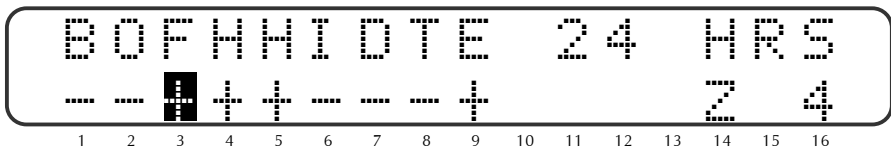
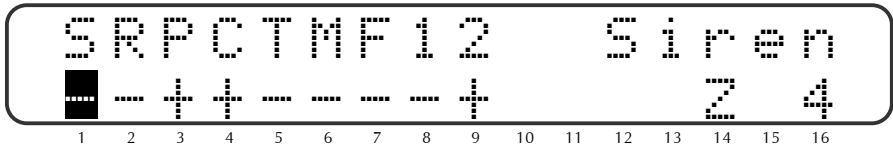

Figure 9 – HUNTER Zone Characteristics (menu #2)
Figure 10 - HUNTER Zone Response (menu #3)
- ◆ The Supervision outputs (i.e., Supervision, Low Battery, and Tamper), are configured as a 24h zone with an EOL resistor (see Figure 9) and silent or siren as required (see Figure 10)